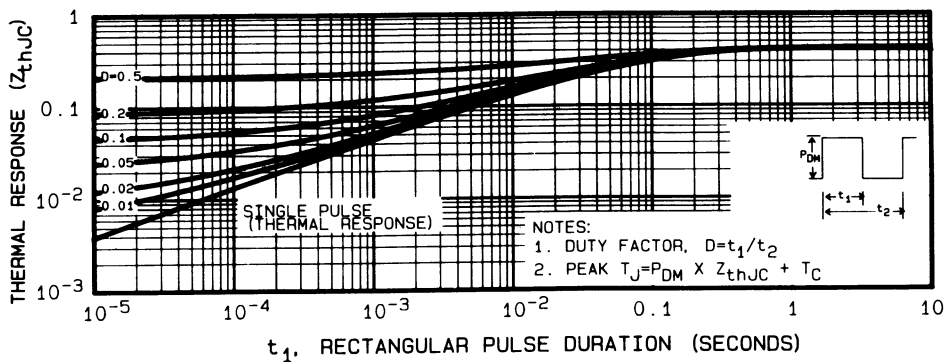

Fig. 5 - Maximum effective transient thermal impedance, junction-to-case vs. pulse duration.
1. Repetitive rating: Pulse width limited by maximum junction temperature. See Transient Thermal Impedance Curve (Figure 5).
① Repetitive Rating; Pulse width limited by maximum junction temperature (see figure 5)